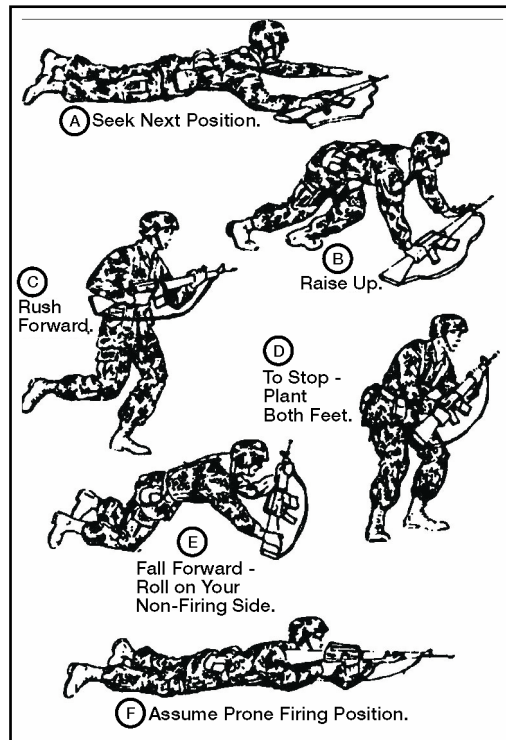

Figure 071-326-0502-4. Rush
6. When enemy fire allows brief exposure, use the rush to move from one covered position to another (figure 071-326-0502-4).